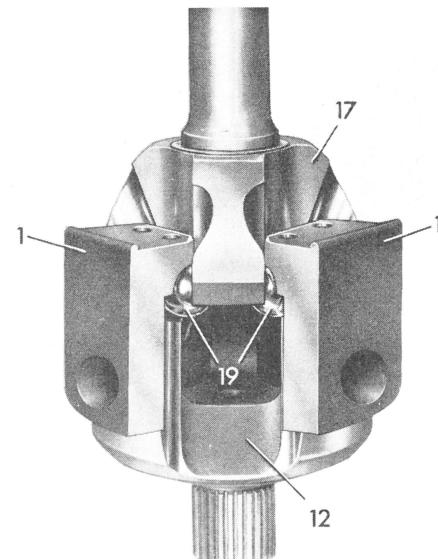

Fig. 9
10 Assemble universal spider (12) and the six balls with the assistance of three magnetic ball holders to spider joint hub (17) (Fig. 9).